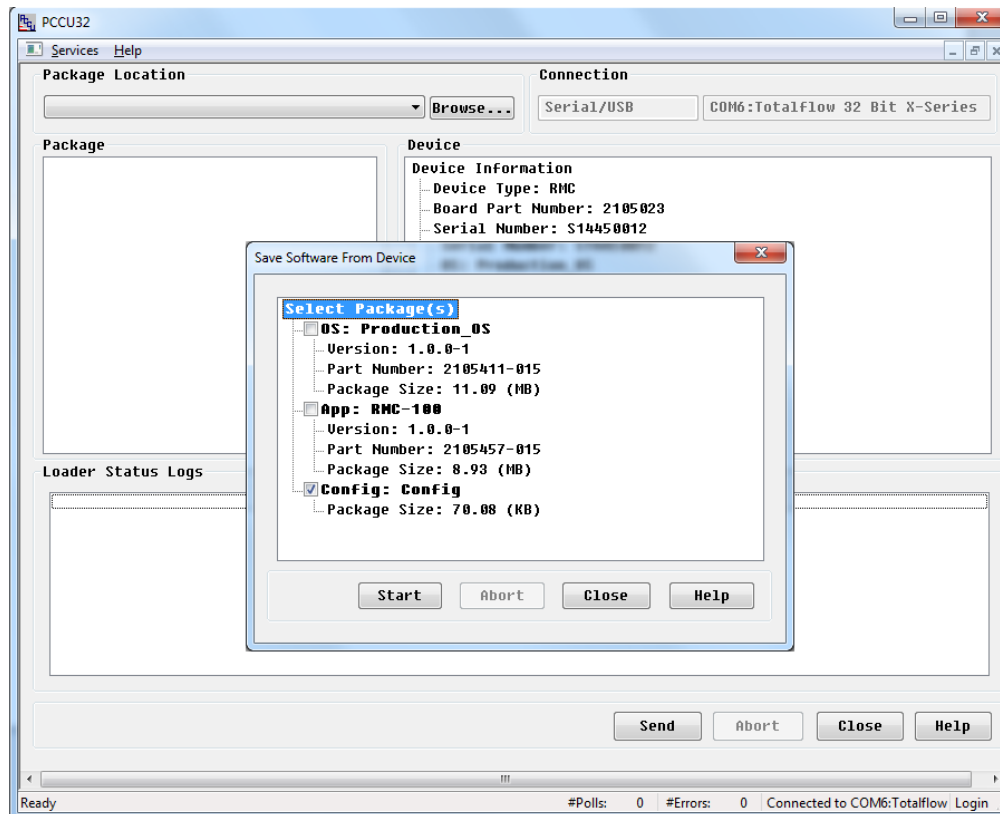

Figure 76: Save from loader
4. Verify or type the connection setup parameters and click **Connect**. The Loader screen displays (Figure 76).